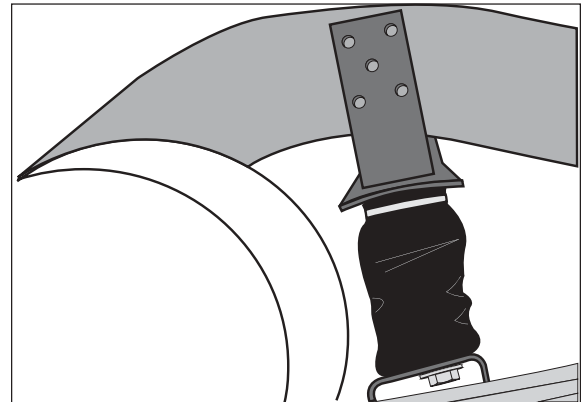

Figure 9
4. Using the upper bracket as a template, center punch one hole (Figure 9). A welding clamp or C-clamp may assist in holding the upper bracket to the frame.